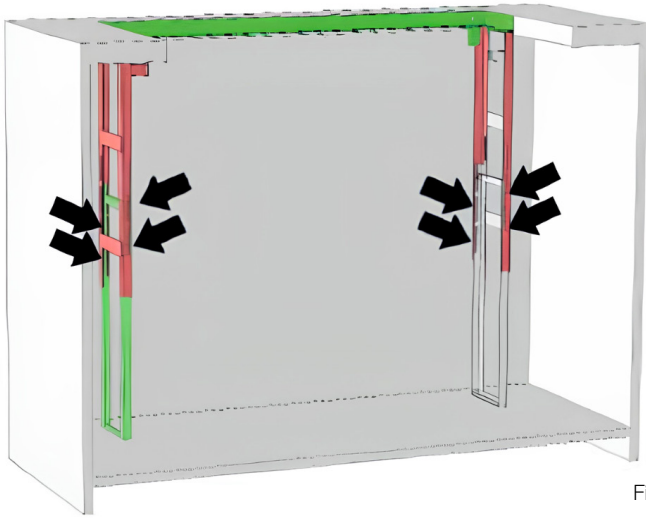

Fig.6
8. Check that the worktop is perfectly level then block the travel of the structures utilising the four self-threading screws, positioned as in Fig. 6.